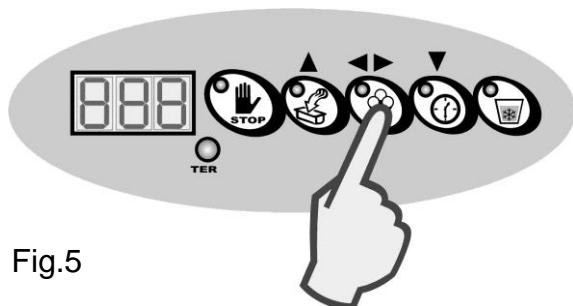

Fig.5
- Subsequently, press the Confirm key to start a new batch freezing cycle (Fig. 5).